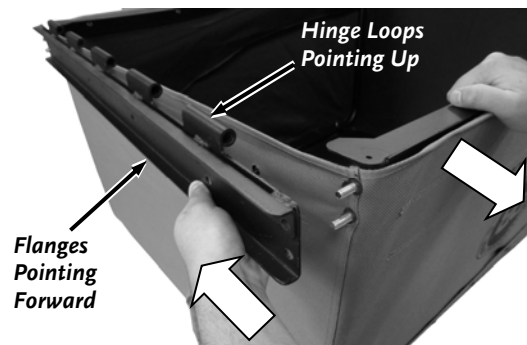

Figure 42
1. Position the Hinge with the Hinge Loops pointing up and the flanges pointing forward (**Figure 42**).